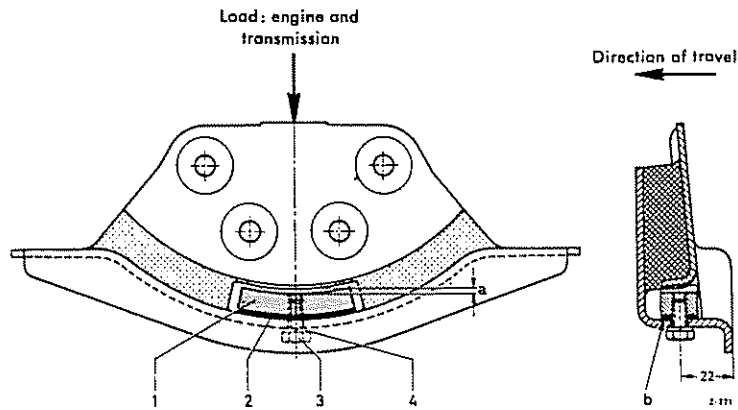

Fig. 24-1/4
Model 219 has an additional stop piece (1) in the rear rubber mounting in order to limit the vertical movement of the engine (Fig. 24-1/4). This stop piece can also be installed subsequently in cars of Model 220 a if complaints are received about a rattling of the gear shift lever and in particular cases about the 3rd and 4th gear slipping out as a result of vertical and horizontal engine movements.
1. Mark out the bore for the hexagon fixing screw for the stop piece as shown in Fig. 24-1/4 and drill with a 6.4 mm ϕ drill.
3. Screw down the stop piece (1) using as many spacer washers (2) as are necessary to produce a distance $d = 1$ to 2 mm be-